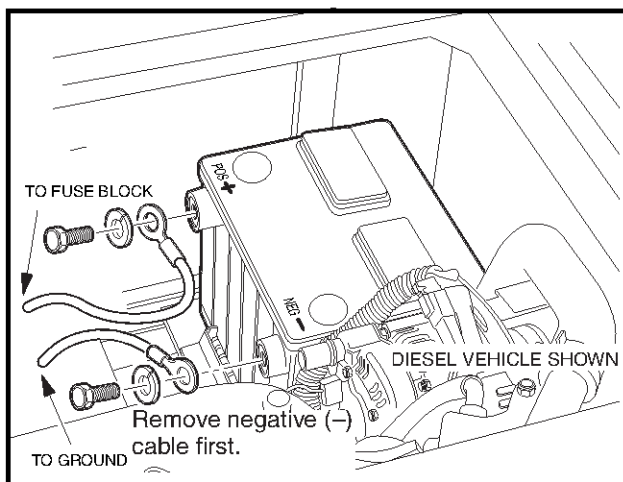

Figure 1-2 Battery
- Disconnect battery cables, negative (-) cable first (Figure 1-2, Page 1-3).